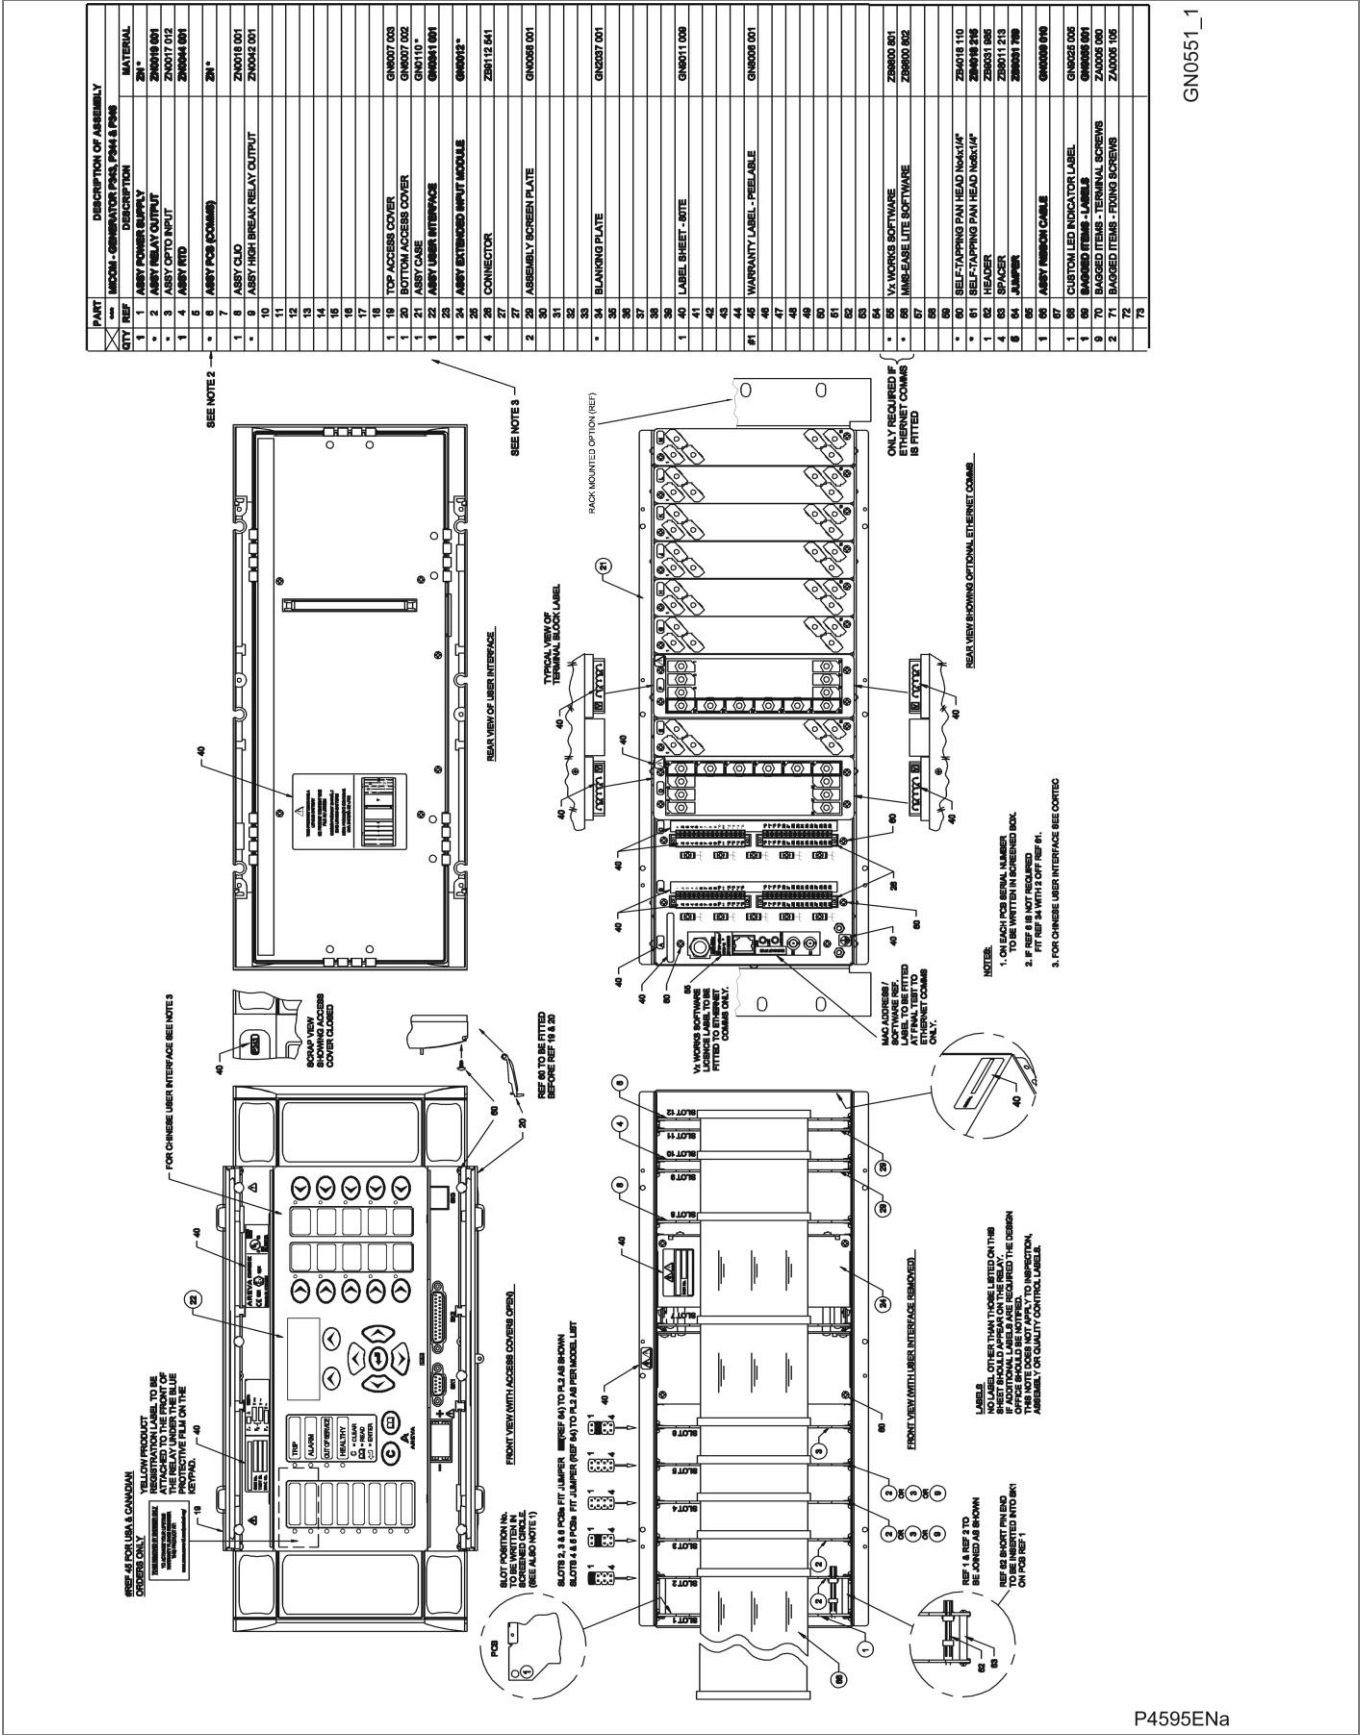

Figure 69 - Assembly P343/P344 (80TE) (16/24 I/P & 16/24 O/P with optional I/P & O/P)
- Figure 69 - Assembly P343/P344 (80TE) (16/24 I/P & 16/24 O/P with optional I/P & O/P)